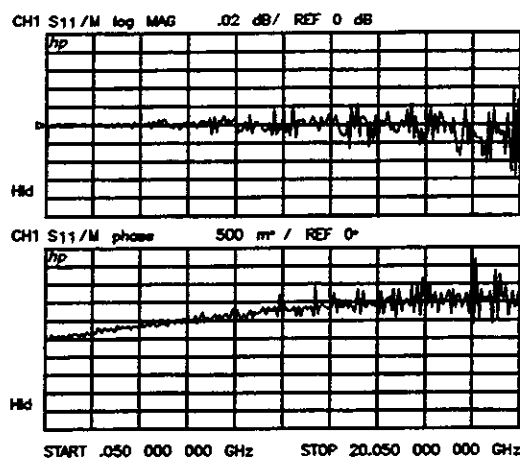

Figure 4–3. Cable Magnitude and Phase Stability
- Place a marker on the largest deflection that goes above and below the reference line and is within the specified frequency range. See Figure 4–3 for example plots of this measurement. Press: